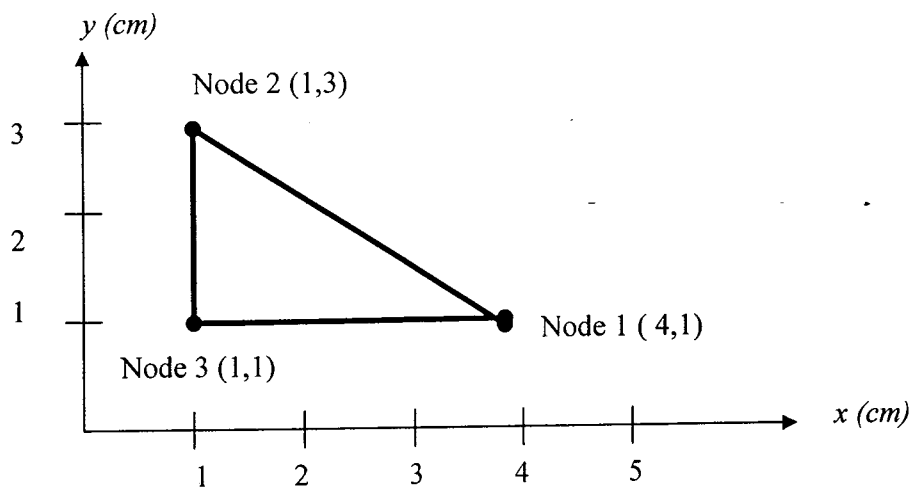

Figure 9
- (b) Show clearly in a step by step manner the development process of a stiffness matrix,  $[K]^e$ , for a triangular element in a state of plane stress as shown in Figure 9. Given  $E = 200\text{GN/m}^2$ ,  $\nu = 0.3$  and  $t = 1\text{cm}$ .